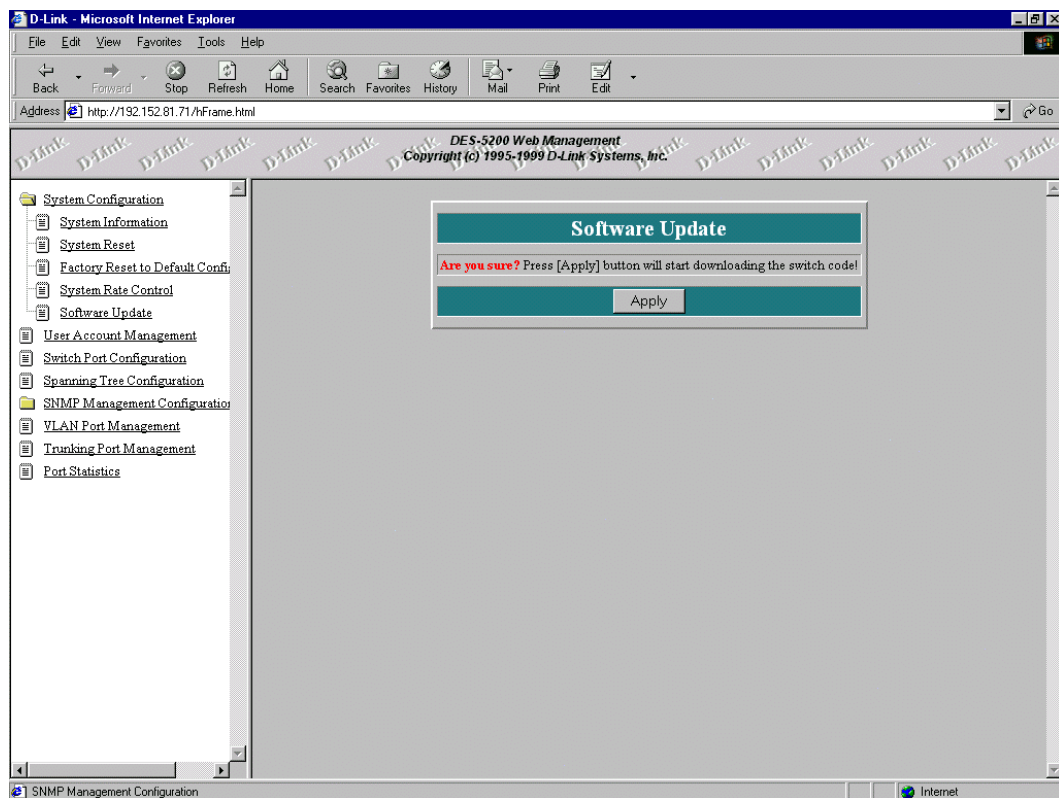
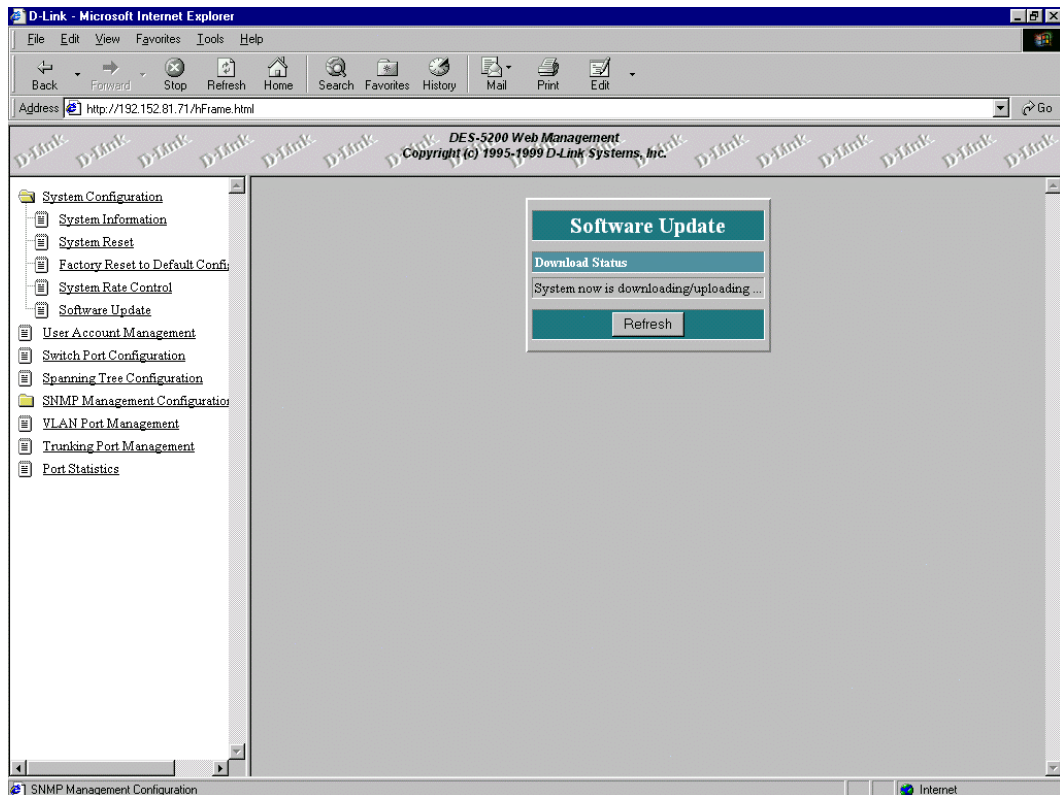

Figure 62: Software Update Confirmation
Figure 63: Software Download
3. There is a confirmation panel and a status panel, see Figure 62 and Figure 63. Select Apply.